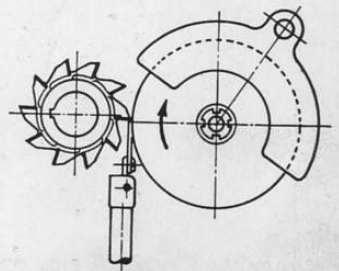

Fig. 6
**Direction of Rotation of Wheel.** The standard direction of rotation of the grinding wheel is towards the cutting edge of the tooth, as shown in Fig. 6. We believe that this direction of rotation produces the best results. Many years of experience in building cutter grinders and sharpening cutters are the basis for this statement; consequently, Cincinnati Cutter Grinding Machines are built with this principle in view. The chief advantage is important—there are no burrs left on the cutting edges of the teeth to be removed by a painstaking oil-stone operation.